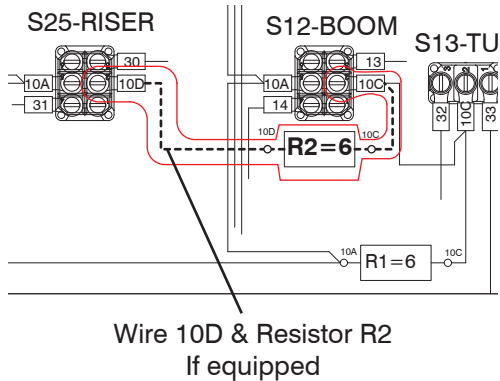

Figure 3-2. Resistor & Wires Removal
Check for the presence of either one or two resistors R1 & R2 (6 ohms) on the door of base control console. See Figure 3-2.
5. On back side of control console door, locate wire 10D. First remove the one end from switch (S25-RISER) then cut the other end wire 10C from switch (S12-BOOM). Discard wire with resistor R2. See Figure 3-2.